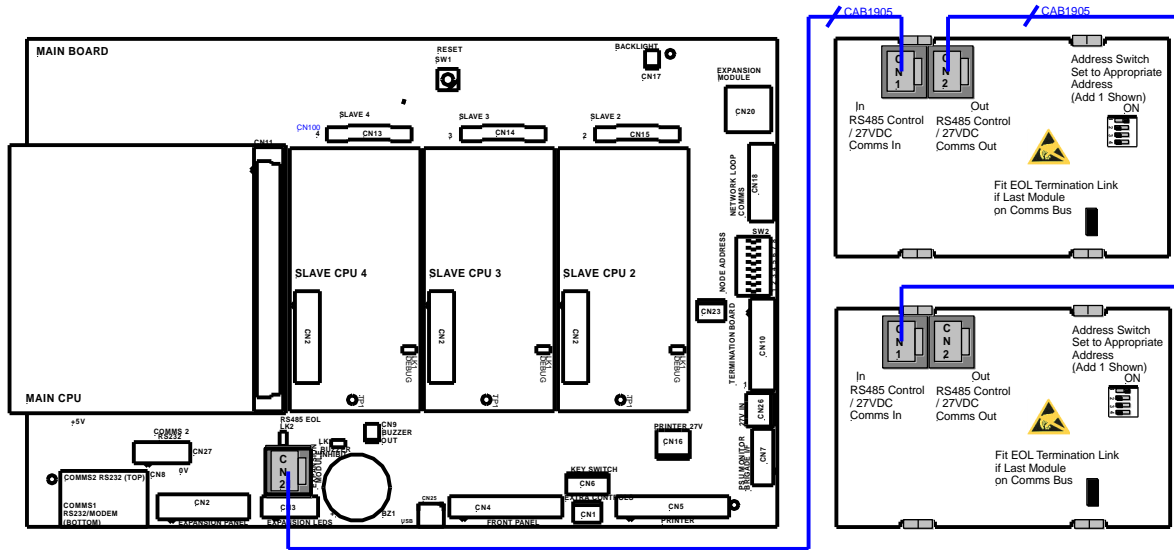

Figure 3: General Wiring Zone Disable and Indicator Card (FireFinder / Plus)
4. Using the supplied RJ45 cable connect the module to the applicable Fire Alarm Control Panel (FACP) (see Figure 3 & 4)